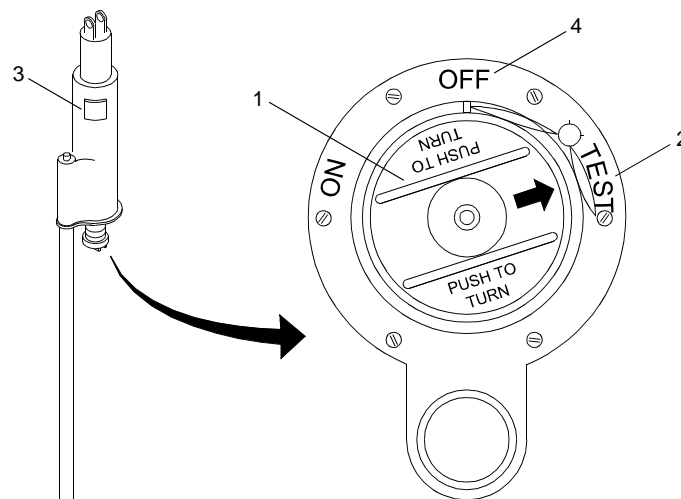

Figure 1. Search and Rescue Transponder (SART)
1. Push in on the lanyard spool (figure 1, item 1).
2. Turn the lanyard spool (figure 1, item 1) in a clockwise direction to the TEST position (figure 1, item 2) and hold it there for 10 seconds.
3. Verify that the SART beeps once and the indicator light (figure 1, item 3) flashes red once every 4 seconds if no radar is within range or once every second if a radar is within range.
4. Turn the lanyard spool (figure 1, item 1) in a counterclockwise direction to the OFF position (figure 1, item 3).